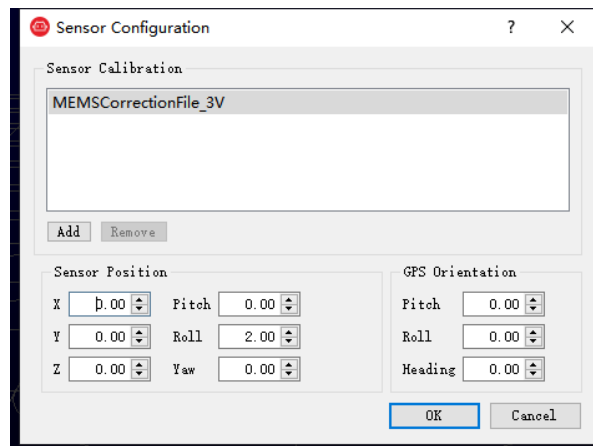

Figure A-2: Select the parameter configuration file of RS-LiDAR- M1(B3 sample)
4. After finishing the above 3 steps, the dialogue box “**Sensor Configuration**” shows up. In this dialogue box, the **Sensor Calibration** default contains the configuration folder named MEMSCorrectionFile_3V, select the corresponding file, click **Add** and then click the **OK** button (as shown in Fig A-2). The original point cloud data output from the RS-LiDAR-M1(B3 sample) is already calibrated point cloud data, therefore the value in this parameter file is void.